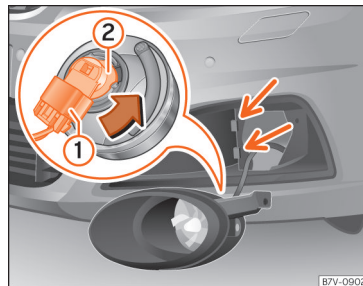

Fig. 67 Changing the bulbs in the headlights
- Tilt the headlight slightly forward and extract it from its lateral attachments  **Fig. 67** (small arrows).
- Release the connector  **Fig. 67** ① and remove it.
- Rotate the bulb holder  **Fig. 67** ② to the left all the way, in the direction of the arrow, and pull it out backwards together with the bulb.
- Insert the connector » **Fig. 67** ① on the bulb holder ②. The connector must audibly click into place.
- Place the headlight into its position » **Fig. 67** (small arrows) and tilt it backwards.